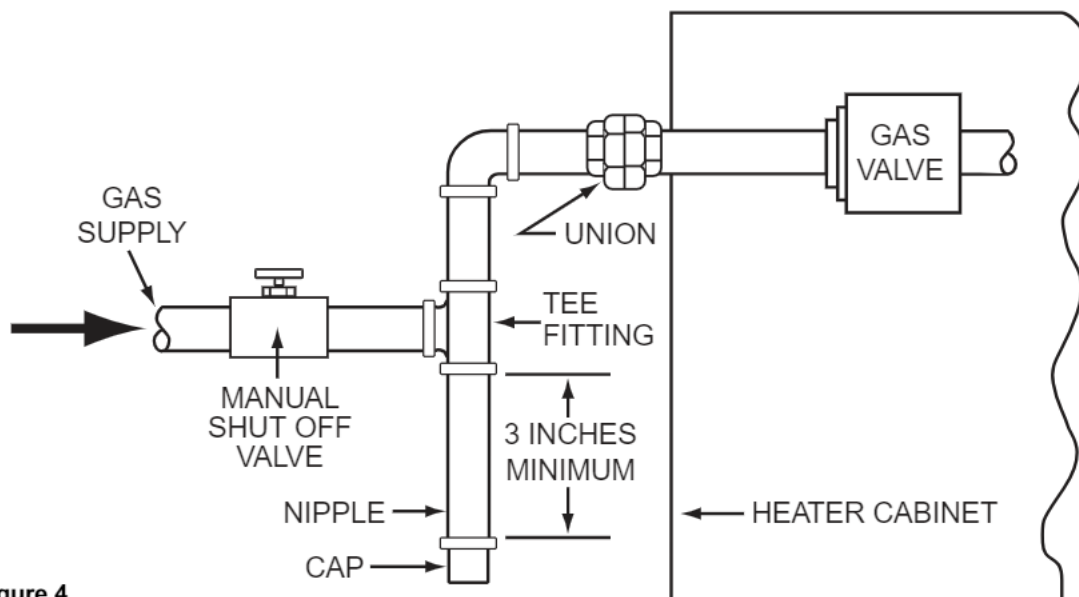

Figure 4.
**A manual main shut-off valve must be installed externally to the heater. See Figure 4.**
Install a sediment in front of the gas controls. The sediment trap shall be either a tee fitting with a capped nipple in the bottom outlet which can be removed for cleaning, as illustrated below, or a other device recognized as an effective sediment trap. All gas piping should be tested after installation in accordance with local codes. See Figure 4.